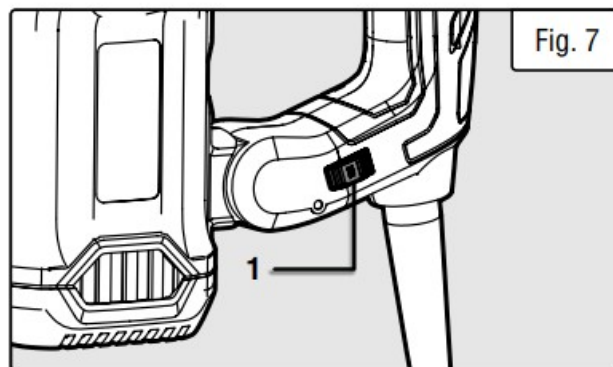

Fig. 7
1. Adjust the speed of your rotary hammer using the variable speed dial (Fig. 7 – 1).